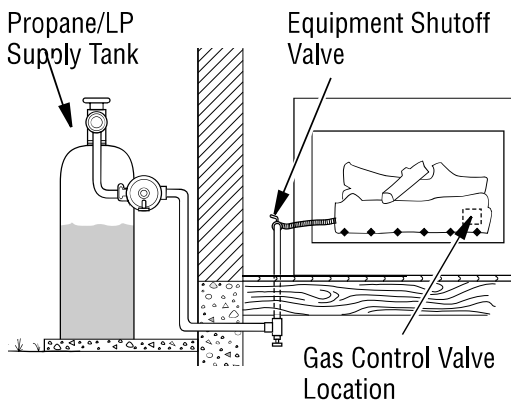

Figure 16 - Checking Gas Joints (Propane/LP Model Shown)
3. Check all joints from gas meter to equipment shutoff valve for natural gas or propane/LP supply to equipment shutoff valve for propane/LP (*see Figures 16 and 17*). Apply noncorrosive leak detection fluid to all joints. Bubbles forming show a leak.
4. Check all joints from equipment shutoff valve to gas control (see **Figures 16 and 17**). Apply noncorrosive leak detection fluid to all joints. Bubbles forming show a leak.